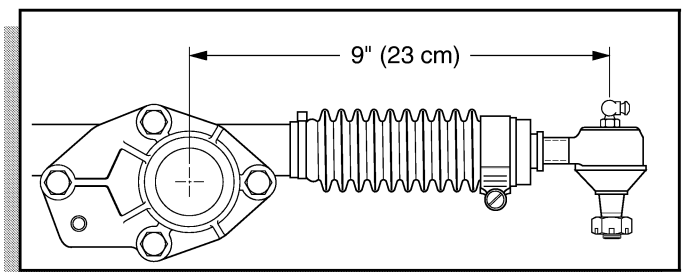

Fig. 12 Factory Adjusted Steering Unit
**CAUTION** The rack and rod assembly (17) comes factory adjusted (Ref Fig. 12 on page E-8). Do not adjust this assembly under any circumstance. Any adjustments must be made to the tie rod assembly going to the steering arm.
With the rack and rod end assembly (17) already set to pre-determined dimension (Ref Fig. 12 on page E-8), secure to upper arm of idler with castellated nut (26) and cotter pin (25). Tighten castellated nut to 36 ft. lbs. (48 Nm) torque and continue tightening as required in order to insert a new cotter pin. Maximum torque is 44 ft. lbs. (59 Nm).